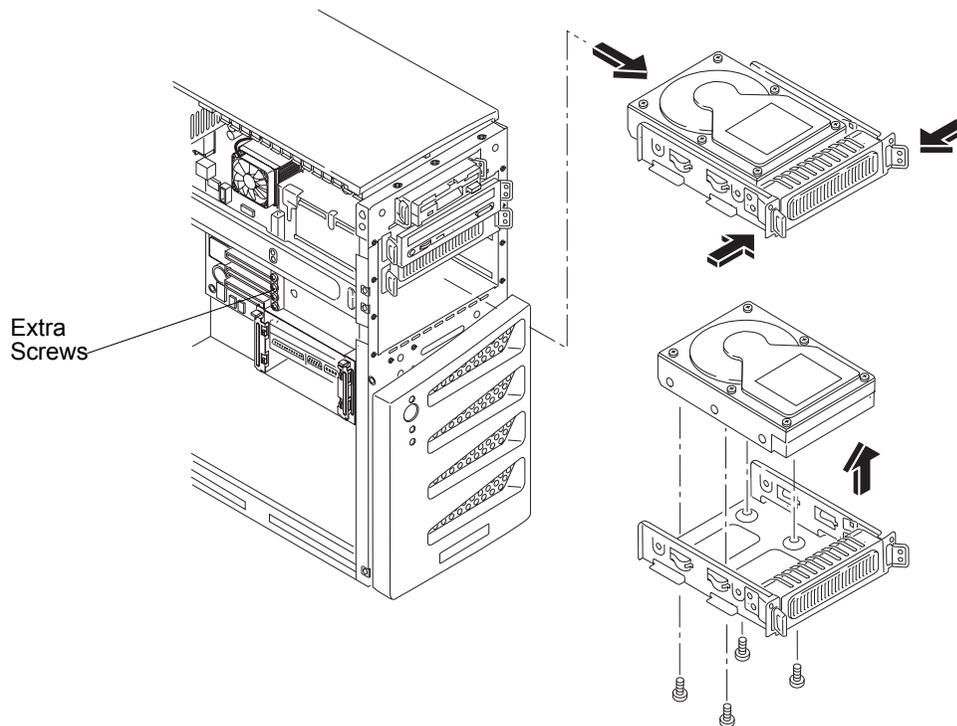

Figure 3-9. Installing a Disk Drive (Tray Mounted)
4. Press in on both tab latches to release the fourth drive tray, and then pull it out. See Figure 3-9.
- b. Insert the hard disk drive assembly into the fourth shelf. See Figure 3-9.